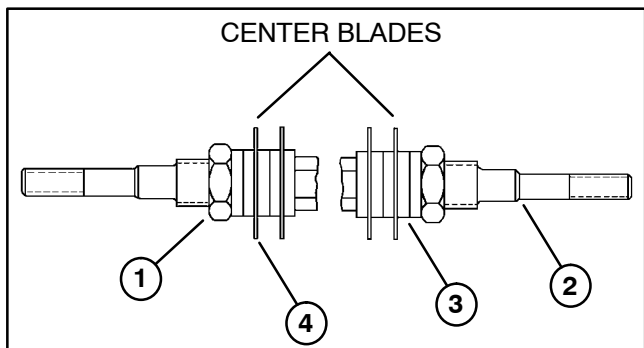

Figure 12
2. Remove lock nut from either end of the shaft (Fig. 12).
1. Start by placing two spacers against a lock nut installed on one end of groomer shaft. Then, place first blade against spacers (Fig. 12).
3. For 1/2 inch (1.3 cm) spacing, make sure there are two spacers between blades (Fig. 12).